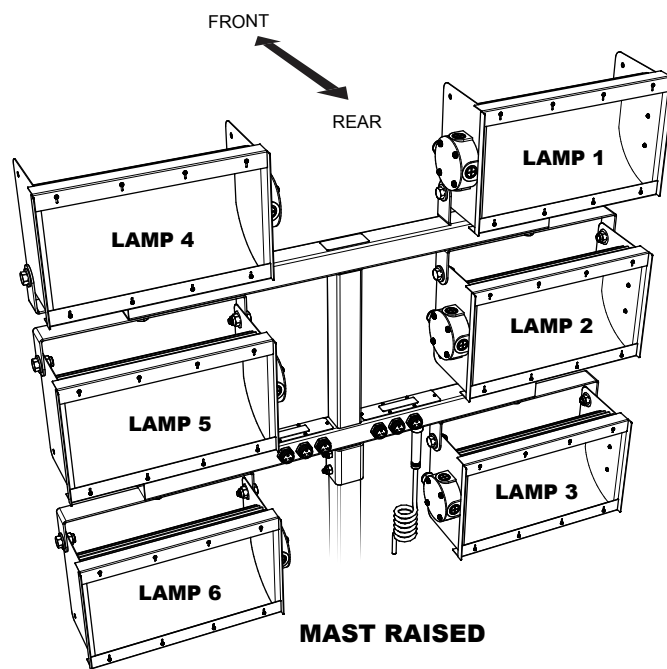

Figure 11. Lamp Orientation
4. Switch the appropriate circuit breakers to the ON position for the lamps (Figure 11) that you want to turn on (in the selected Voltage Selector setting), as detailed in Table 3.